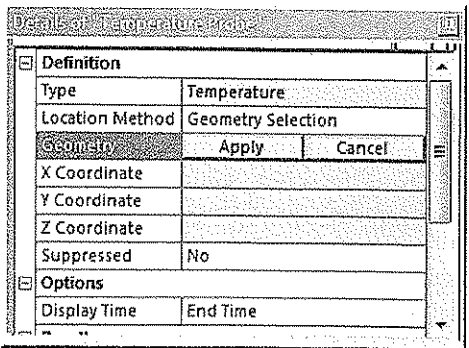

Figure 11-63 The Details of “Temperature Probe” window
- 5. In the **Details of “Temperature Probe”** window, select the **Geometry** selection box to display the **Apply** and **Cancel** buttons, as shown in Figure 11-63, if they are not already displayed.